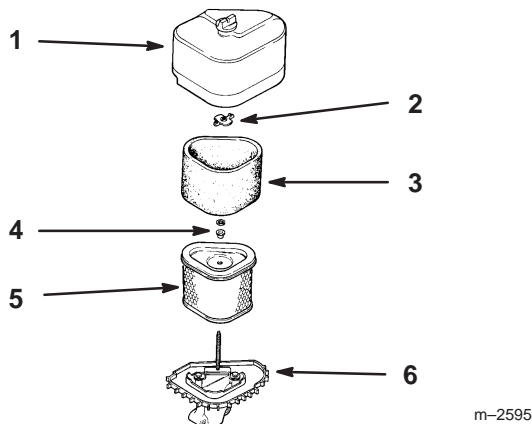

Figure 22
2. Clean around the air cleaner to prevent dirt from getting into the engine and causing damage. Unscrew the cover nut and remove the air cleaner cover (Fig. 22).
3. Remove the air cleaner assembly (Fig. 22).
4. Carefully slide the foam element off the paper element (Fig. 22).
1. Carefully slide the foam element onto the paper air cleaner element (Fig. 22).
2. Place the air cleaner assembly onto the air cleaner base (Fig. 22).
3. Install the air cleaner cover and secure with cover nuts (Fig. 22).